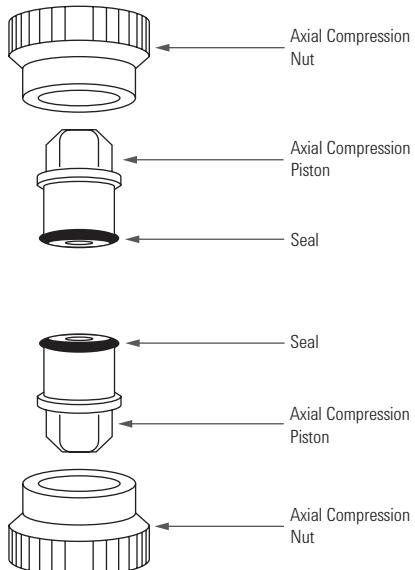

Figure 2. Components of End-fittings Kit No. 1.
- 3.2. Remove the end-fittings kit from its shipping container. Check that you have received two axial compression nuts and two complete axial compression pistons. (See Figure 2). You should also have two 10-32 bushings and two ferrules. In case replacements are required in future, these are Rheodyne extra-long bushings and Parker-type ferrules. For 10 mm id Dynamax columns, only the Rheodyne extra-long bushing may be used.